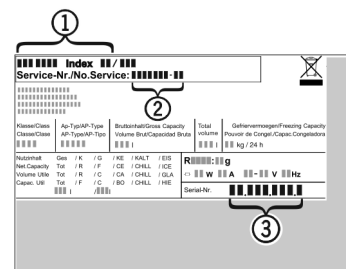

Fig. 10
- ▶ Read the appliance designation Fig. 10 (1), service No. Fig. 10 (2) and serial No. Fig. 10 (3) off the model plate located inside the appliance on the left-hand side.
- ▶ Notify the customer service, specifying the fault, appliance designation Fig. 10 (1), service No. Fig. 10 (2) and serial No. Fig. 10 (3).